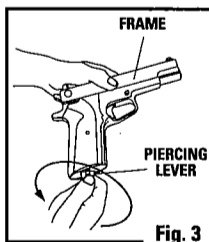

Fig. 3
- With one hand, hold the soft air pistol by the frame. With the other hand, slowly turn the piercing lever counterclockwise until it stops (Fig. 3).